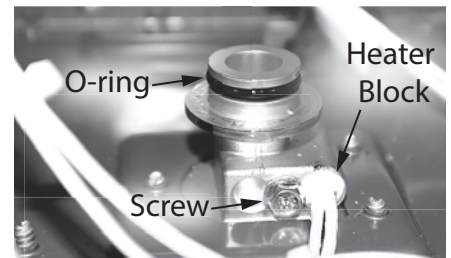

Figure 225 - Heater block location
- 21 Locate the screw securing the heater block in the base of the inlet assembly. See Figure 225. Use a Phillips screwdriver to remove the screw. Place the screw aside in a safe place for reinstallation.
**26** Place the new O-ring on the new inlet assembly. See Figure 225.